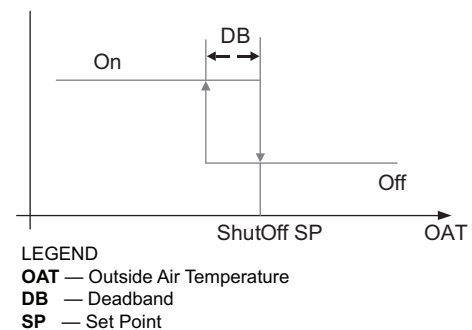

Fig. 59 — Hysteresis Settings
Hysteresis setting (DB) defaults to 2°F (–17°C). See Fig. 59.